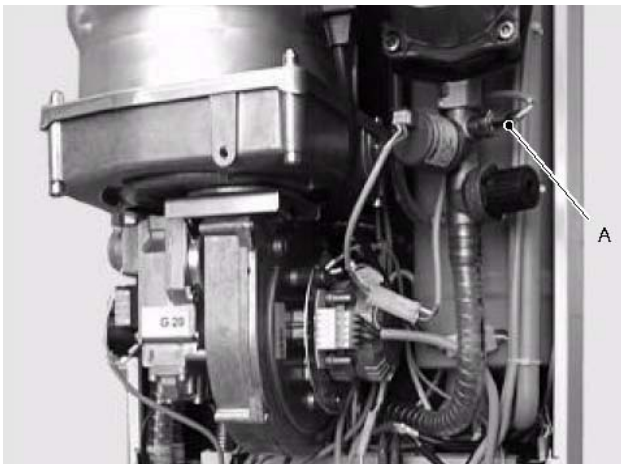

Fig. 18
- 2 Disconnect the connector A (Fig. 18).
- 4 Disconnect the connector A (Fig. 18).